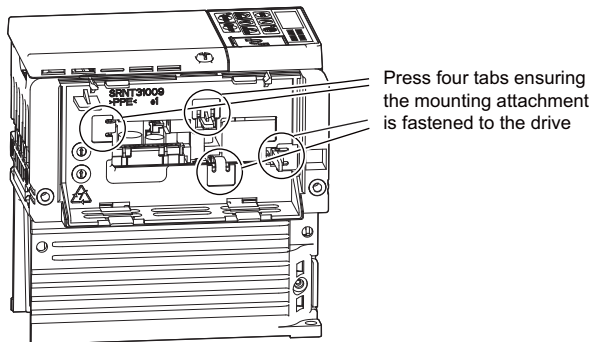

Figure 14 Locking the Mounting Attachment into Place (PS-V10S)
3. Press firmly on the mounting attachment tabs and make sure it is locked into place on the side of the drive case as shown in **Figure 14**.